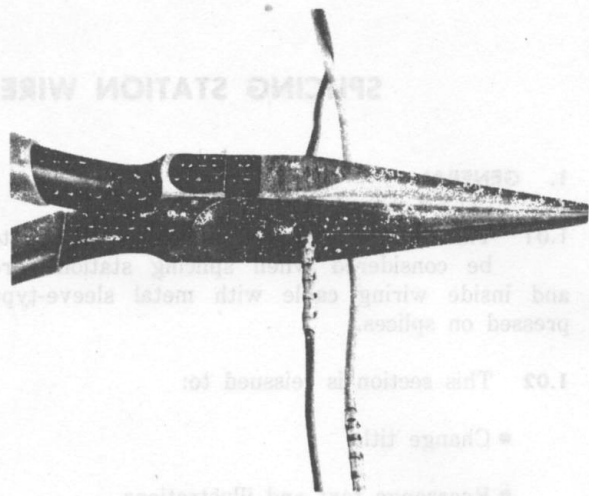
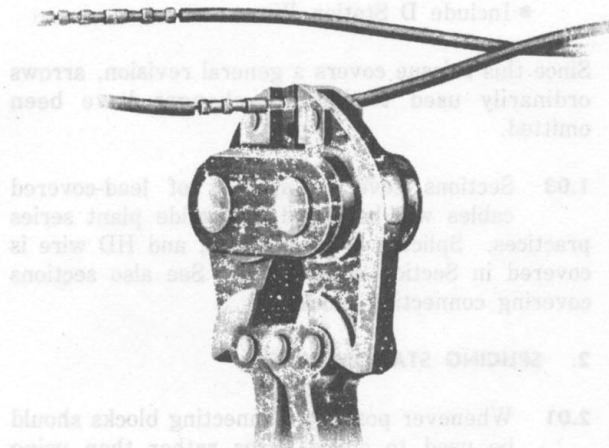

Fig. 2—Pressing Sleeve with C Long-Nose Pliers
Fig. 3—B Sleeve Presser
(1) Place a brass S-032-025 sleeve on each conductor of one wire and using C Long-Nose Pliers or B Sleeve Presser Tool, make a single press on sleeve near outer end.
(2) Insert associated conductor in other half of sleeve and make single press on this end.
(3) Repeat for each conductor of two wires being spliced.
(4) Finish pressing sleeves using pliers or presser tool. If pliers are used make four presses on each side of sleeve center (Fig. 2). If presser tool is used, make two presses on each side of sleeve center. Close handles of sleeve-presser tool until stops are brought together (Fig. 3).